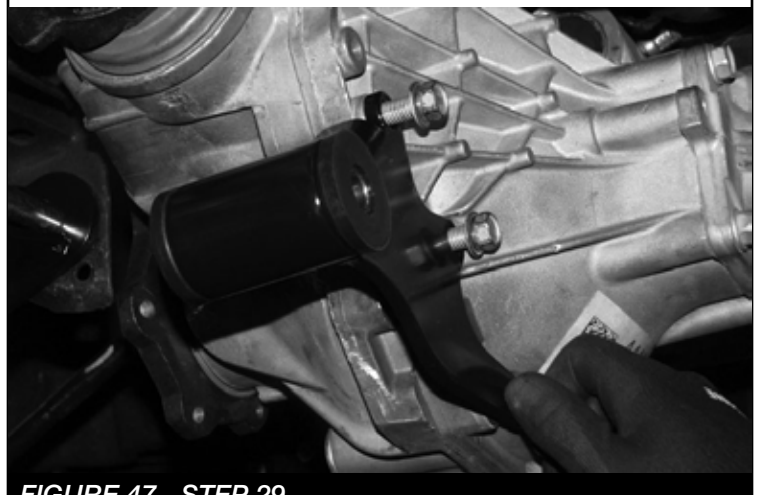

FIGURE 47 - STEP 29
29. Install the FT20365 (rear diff support bracket) on the differential using the provided M10-1.5 X 60mm bolts, washers and thread lock. Torque to 58 ft-lbs. **SEE FIGURE 47**